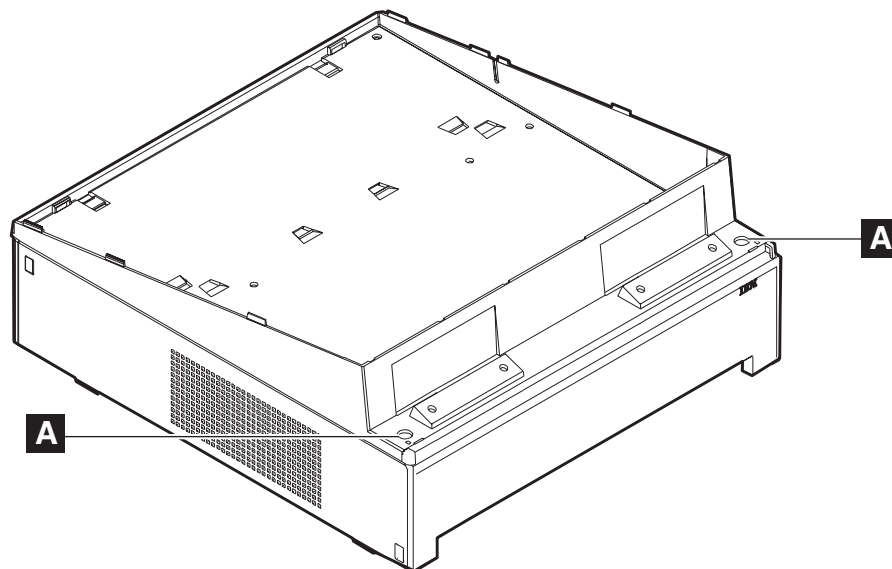

Figure 16. Removing the slanted I/O tray
1. Working from above the system unit, remove the screws from the holes (**A** in Figure 16) inside of each corner of the I/O tray.